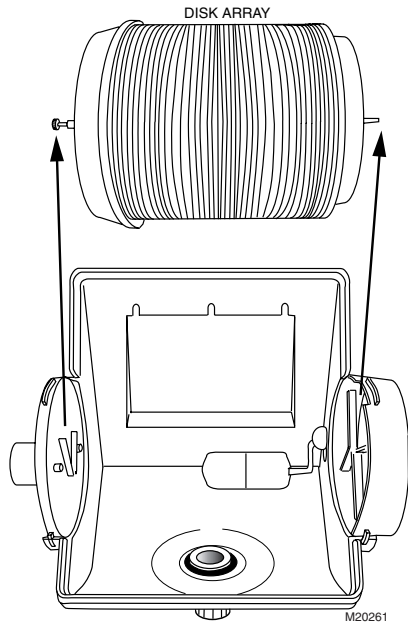

Fig. 7. Removing disk array.
2. Remove the disk array. See Fig. 7.